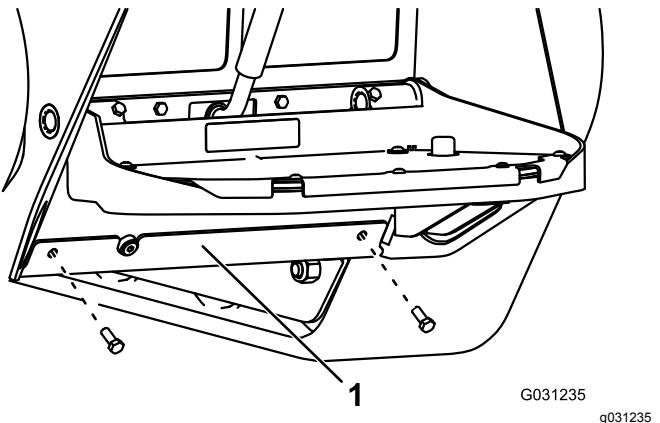

Figure 64
3. Remove the 2 bolts securing the bottom plate and remove the bottom plate (Figure 64).
7. Install the bottom plate (Figure 64).
2. Install the bottom plate (Figure 64).